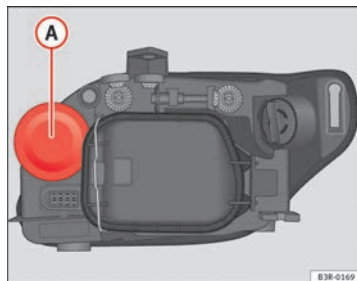

Fig. 219 Turn signal
- Pull the rubber cap ⇒ Fig. 219 to remove it.